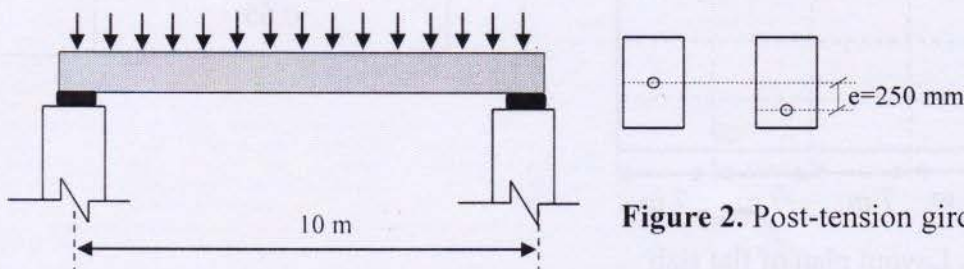

Figure 2. Post-tension girder
- b. "Eccentric tendon is economical choice for post-tensioned pre-stressing system". Justify the statement through analysis of the girder shown in **Figure 2**. The girder of 10 meter span is carrying 15 kN/m live load and 30 kN/m dead load (including self-weight of beam). The section of the rectangular beam is $250 \text{ mm} \times 800 \text{ mm}$. The eccentricity of the tendon is 250 mm below the centre at mid span of the beam. [15]